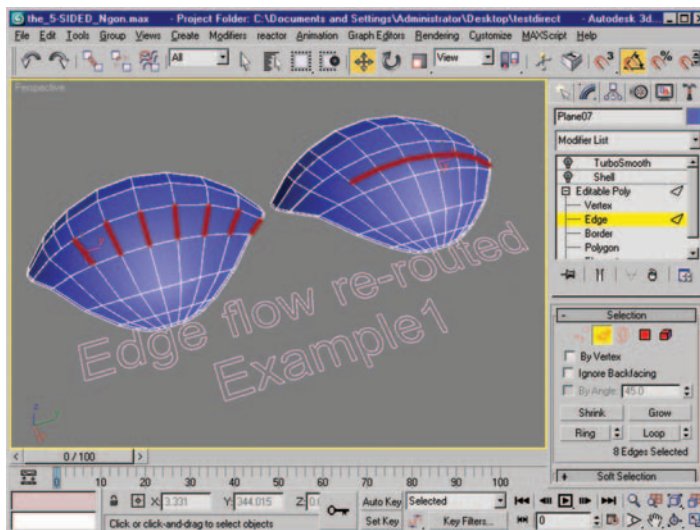

Figure 6.60 Edge selection and resulting edges after using Connect.
3. Create a ring selection as shown in Figure 6.60. Note that the edge ring stops at the five-sided polygon rather than continuing across the entire span.
4. Use the Connect button to create a new loop. Figure 6.60 (right side) shows the newly created edges.